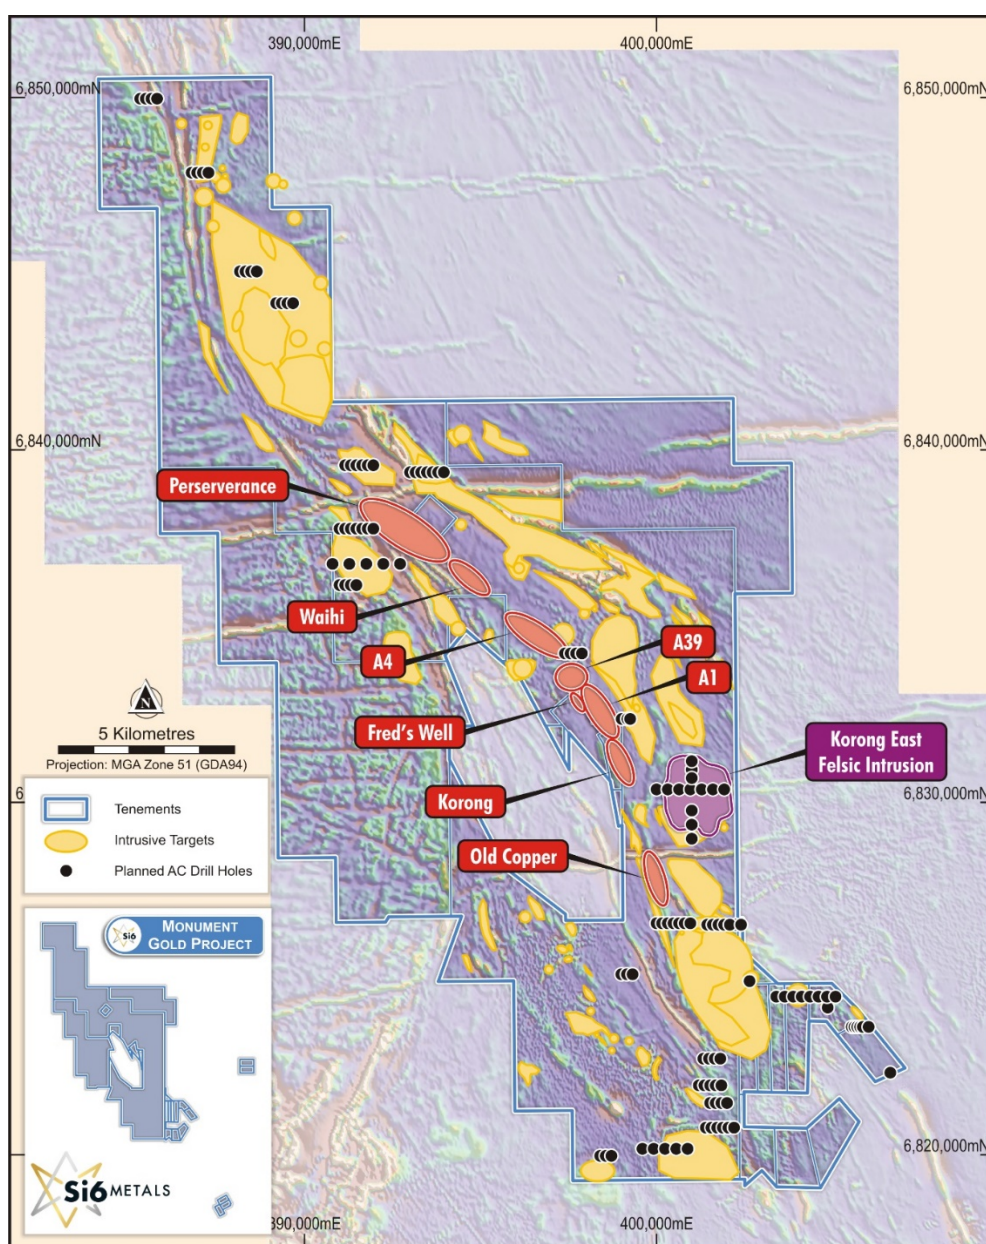

Figure 6. Location plan showing interpreted intrusion targets with proposed AC drill collars.
Based on a recent review of the historic database and interpretation of geophysics imagery, a 125 hole air core (AC) drill program has been designed across the MGP to test a number of intrusion-style targets which have been identified from a recent geophysics interpretation. The drill program will be the first of its kind across the MGP and was designed as part of Si6's successful application for co-funded drilling through the West Australian Governments Exploration Incentive Scheme (EIS) where 50% of direct drilling costs up to \$75,000 will be reimbursed to the Company (See Figure 6).